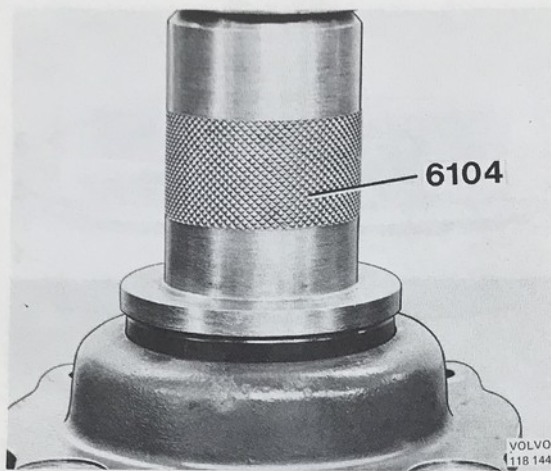

Fig. 92-80. Pressing in the seal
16. Press the seal into the cover with 6104, see Fig. 92-80. Grease the lips on the seal.